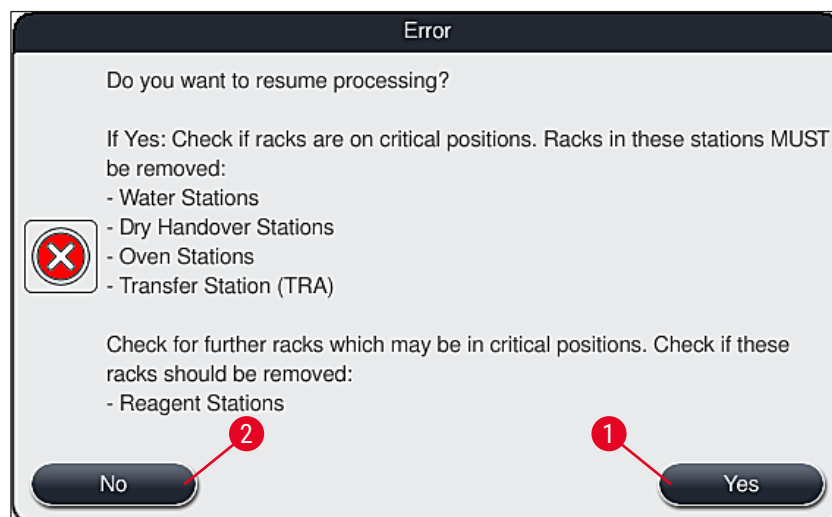

Fig. 110
4. Following this, the user has the option of selecting whether or not the staining process is to be resumed (→ P. 136 – 8.2.2 Resuming the staining process after a power failure) or canceled (→ P. 137 – 8.2.3 Canceling all staining processes after a power failure)(→ "Fig. 110").
2. Remove the critical racks from the instrument in accordance with the previous information message (→ "Fig. 110") and confirm the removal by pressing the corresponding station (→ "Fig. 111-1") on the screen.
The cancellation of the staining process and the return to the previous selection menu (→ "Fig. 110") can be undone by pressing the **Cancel** button (→ "Fig. 112-2").